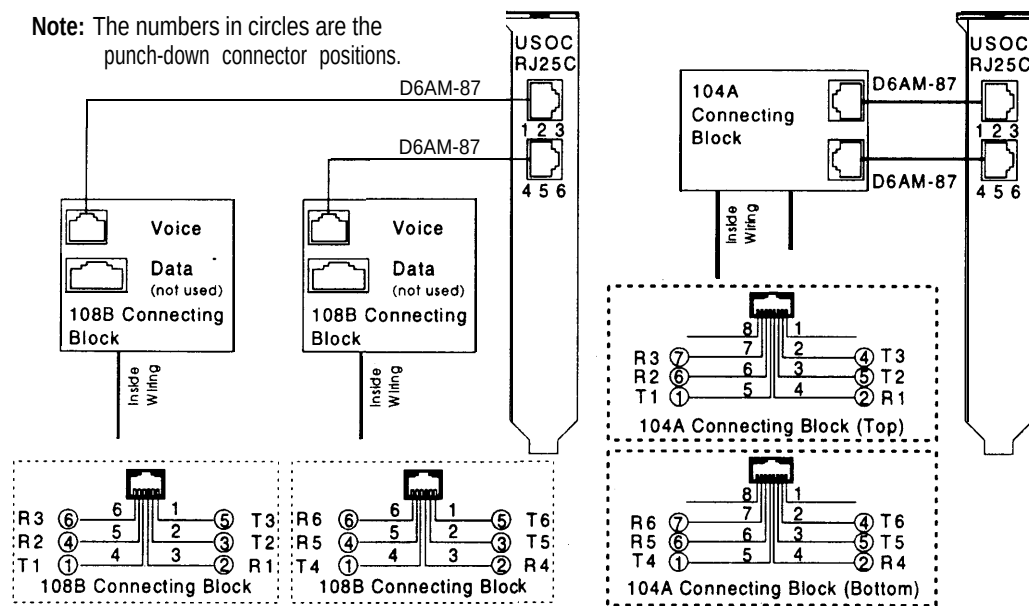

Figure 2-8. IVP6 Board Direct Connection
1. Make sure that the building wire pairs were run together to a type 104A or 108B connecting block or equivalent. Refer to Figure 2-8.
3. The numbers in circles in Figure 2-8 are the punch-down connector positions.